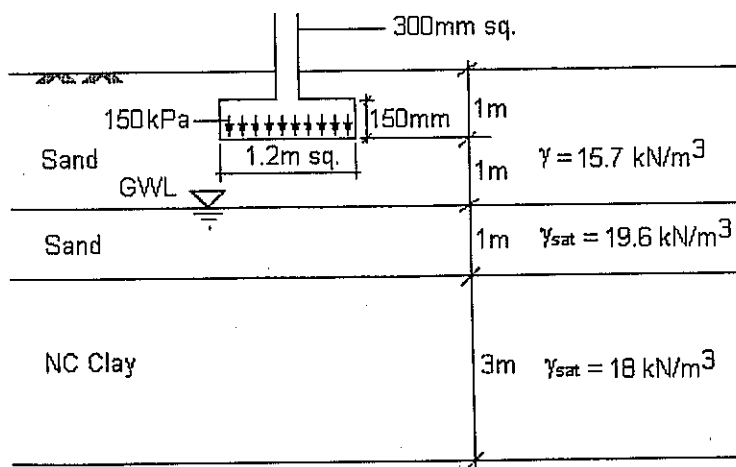

Figure Q2
2. The total settlement of a shallow footing is expressed as:  $S = S_i + S_c + S_s$ . The suffixes stand for immediate, primary consolidation and secondary compression, respectively. Figure Q2 shows a 1.2mx1.2m square pad footing to be founded on a sandy soil, which is overlain by a normally – consolidated clay.